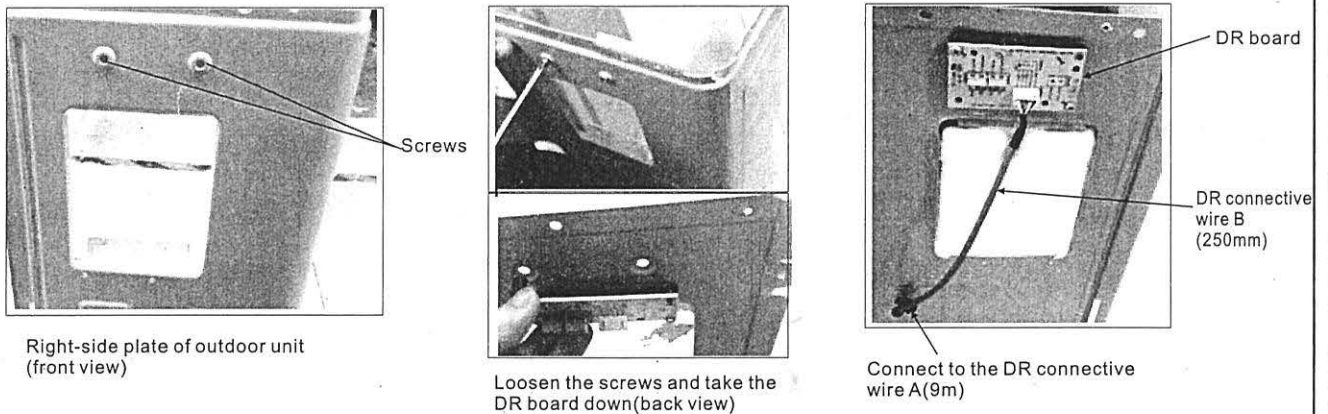
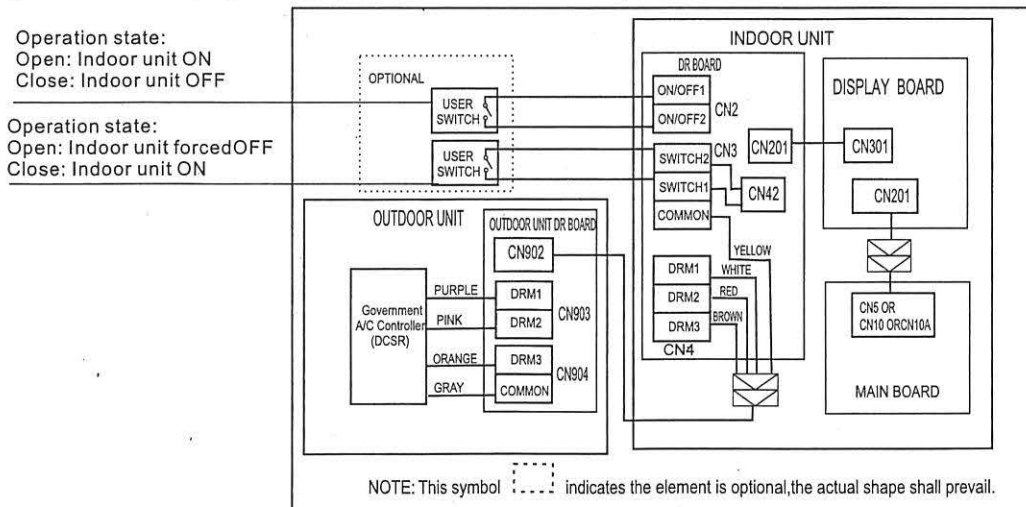

Fig.4
Fig.5
3. The outdoor DR board is installed at the back of right-side plate of outdoor unit, fixed by two screws as shown in Fig. 4(the DR board installed on the plate horizontally or vertically(model dependent)). First remove the top cover , then take down the DR board by loosening the screws from outside of the outdoor unit. Using the DR connective wire B(250mm) connect to the DR board with DR connective wire A(9m). Then connect the DR board with DSCR as shown in Fig.5. After connection, reinstall the DR board on the right-side plate with the original two screws.
4. Wiring diagram of indoor unit and outdoor unit, Fig5. For more details, please refer to the Installer's Manual of Demand Control Signal Receiver supplied by Electric Power Company..